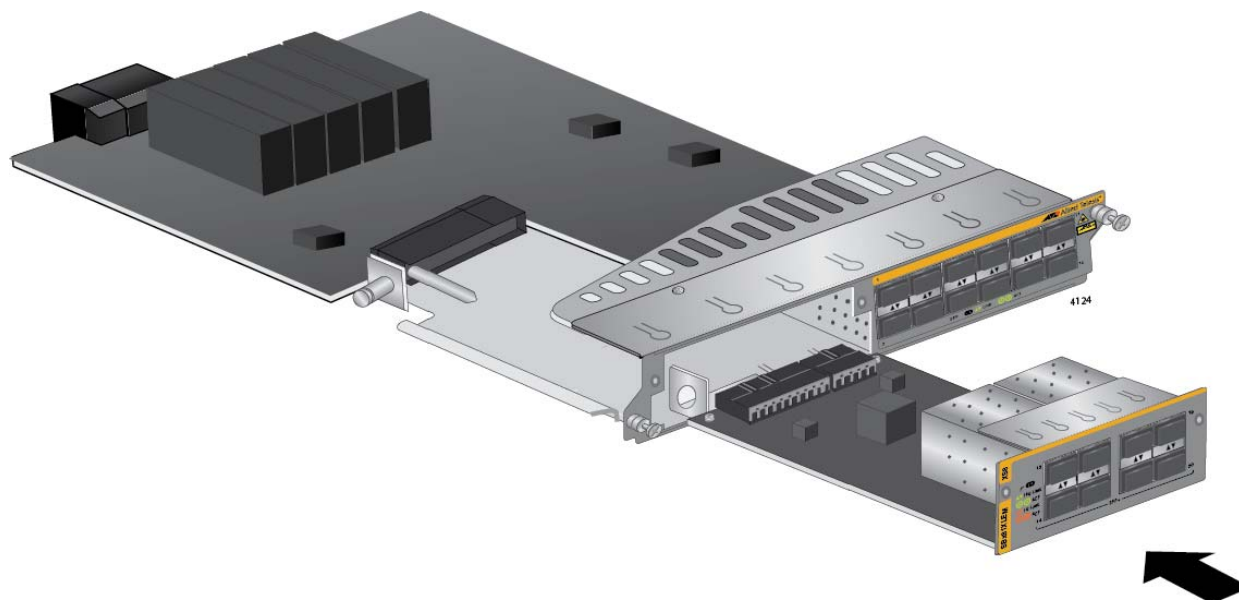

Figure 81. Sliding the Expansion Module into the AT-SBx81XLEM Line Card
8. Carefully align the expansion module in the slot, as shown in Figure 81, and slide it into the line card.